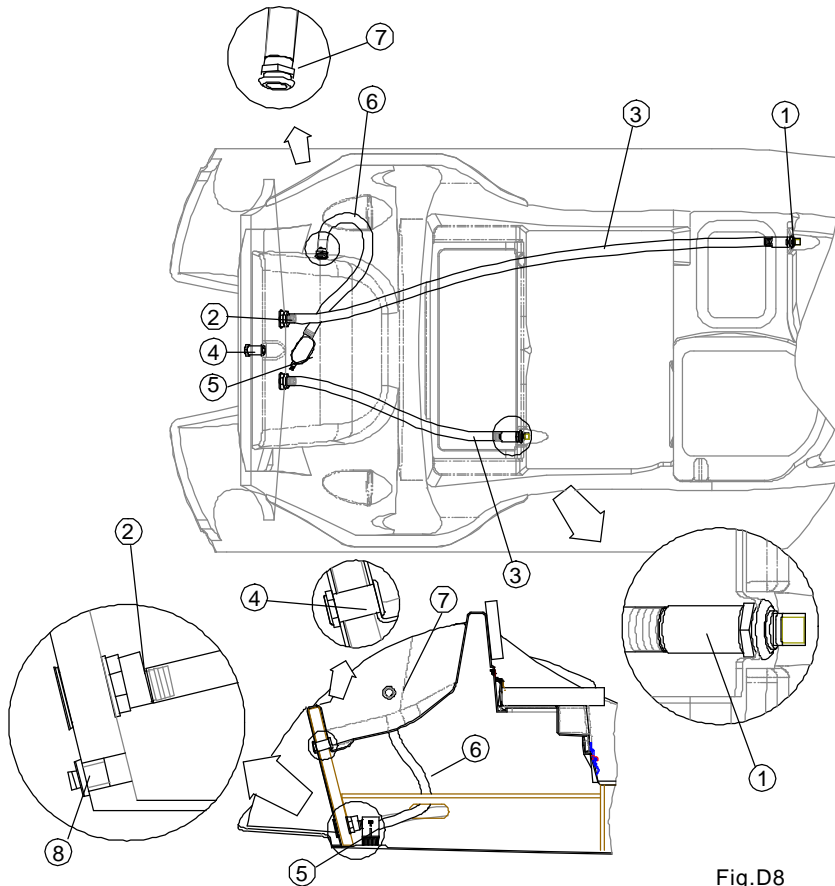

Fig.D8
Drain system, (Fig. D8), consists of the three inde systems:
Bilge valve (8)(Fig.D8) should be tightly CLOSED when the boat on the water
Bilge valve (8)(Fig.D8) should be open when the boat is out of the water